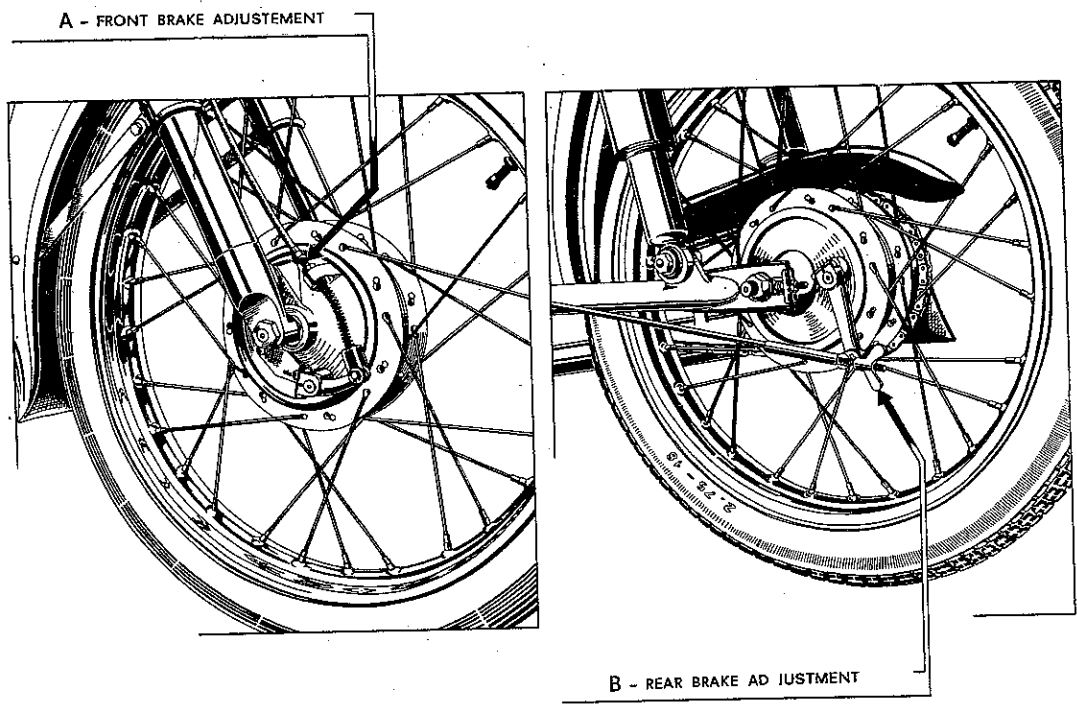

Fig. 5 - Brake adjustment diagram.
To adjust the front brake control, set the cabl sheath adjustment (A), located on the flange so as to leave 6 to 8 mm play in the brake hand lever on the handlebars (see Fig. 5 A). To adjust the foot-pedal operated rear brake, turn the wing nut (B) mounted on the rod which controls the brake so that the play in the brake pedal is no greater than 8 to 10 mm (Fig. 5 B).